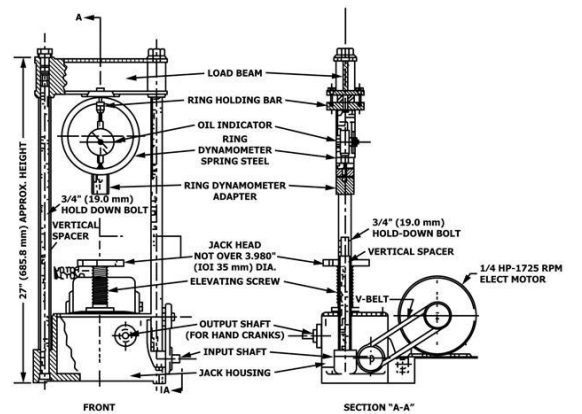

FIG. 3 Compression Machine
5.2 Compression Loading Machine—The compression loading machine (Fig. 3) may consist of a screw jack mounted
In a testing frame and shall be designed to load at a uniform vertical movement of 2.00 $\pm$ 0.15 in./min (50 $\pm$ 5 mm/min). The design in Fig. 3 shows power being supplied by an electric motor. A mechanical or hydraulic compression testing
5.3 Load Measuring Device—As a minimum, a calibrated nominal 5000 lb (20 kN) ring dynamometer (Fig. 3) with a dial indicator to measure ring deflection for applied loads is required. The 5000 lb (20 kN) ring shall have a minimum sensitivity of 10 lb (50 N). The dial indicator should be graduated in increments of 0.0001 in. (0.0025 mm) or finer. The ring dynamometer should be attached to the testing frame (see ring holding bar, Fig. 3) and an adapter (see ring dynamometer adapter, Fig. 3) should be provided to transmit load to the breaking head. The ring dynamometer assembly may be replaced with a load cell connected to a load-deformation recorder or computer provided capacity and sensitivity meet above requirements.